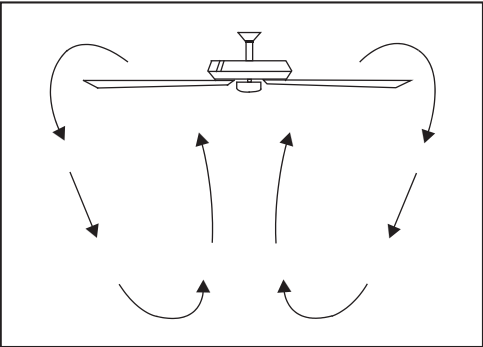

Figure 24
**Cool weather** - (Clockwise direction) An upward airflow moves warm air off the ceiling area. (Fig. 24) This allows you to set your heating unit on a lower setting without affecting your comfort.